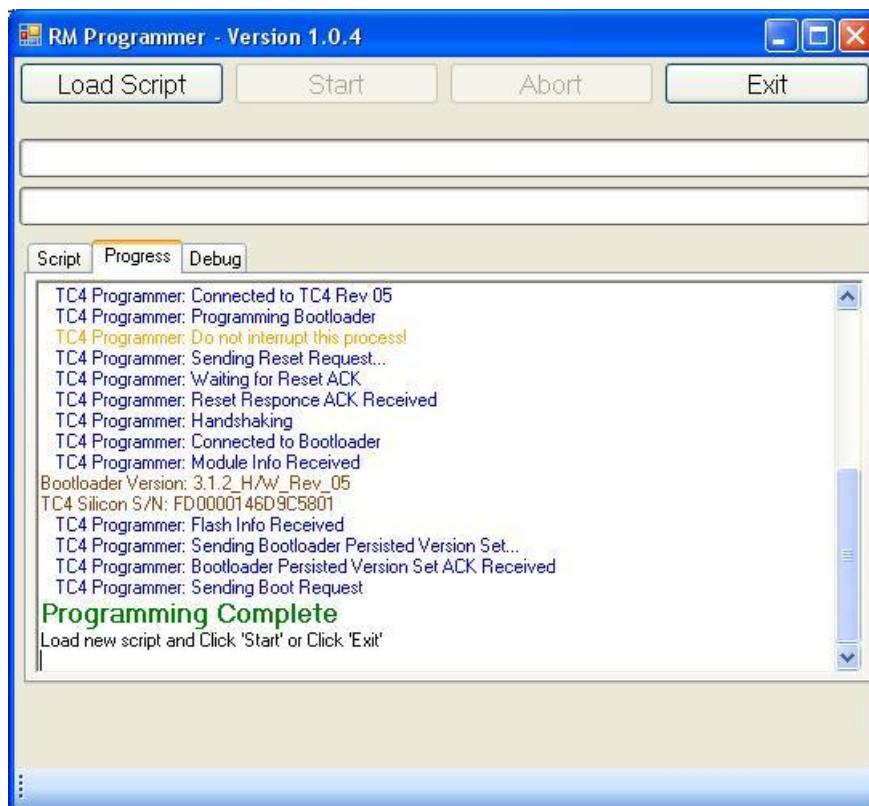

Figure 43: RM Programmer TC4 Bootloader update complete
- 8) The RM Programmer will indicate when the update process is complete and the unit will reset automatically as shown in Figure 43.